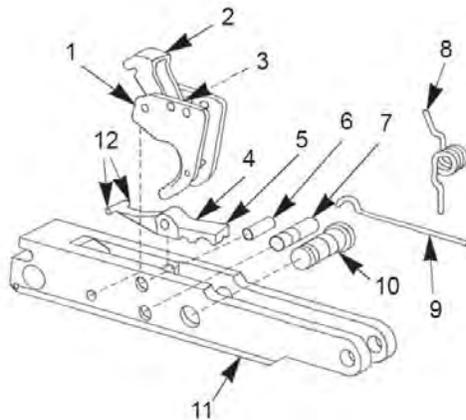

Figure 4. Inspection of Safety and Tripping Lever.
1. Visually inspect front edge of trigger assembly (Figure 4, Item 1). If chipped, cracked or broken, replace trigger assembly (Figure 4, Item 1).
2. Visually inspect tripping lever spring (Figure 4, Item 3) for broken or bent legs. With trigger mechanism assembly completely assembled, functionally inspect trigger for proper function. If the trigger assembly (Figure 4, Item 1) is hard to pull, the tripping lever (Figure 4, Item 2) may be worn out, replace trigger assembly (Figure 4, Item 1).
3. Visually inspect safety (Figure 4, Item 10) for burrs. Replace if burrs cannot be removed or is otherwise damaged.
4. Visually inspect headless straight pin (Figure 4, Item 6) and grooved pin (Figure 4, Item 7) for burrs and bends. Replace if bent or if burrs cannot be removed.
5. Visually inspect sear (Figure 4, Item 4) for cracked or broken trigger tabs (Figure 4, Item 12), for well-defined edge (Figure 4, Item 5) for chips, burrs, or rounding. Replace if broken or damaged.
6. Visually inspect sear spring (Figure 4, Item 8) for broken or bent legs. Replace if damaged.
7. Visually inspect retaining spring (Figure 4, Item 9), and replace if broken or bent.
8. Visually inspect trigger housing (Figure 4, Item 11) for cracks or burrs and replace if damaged.